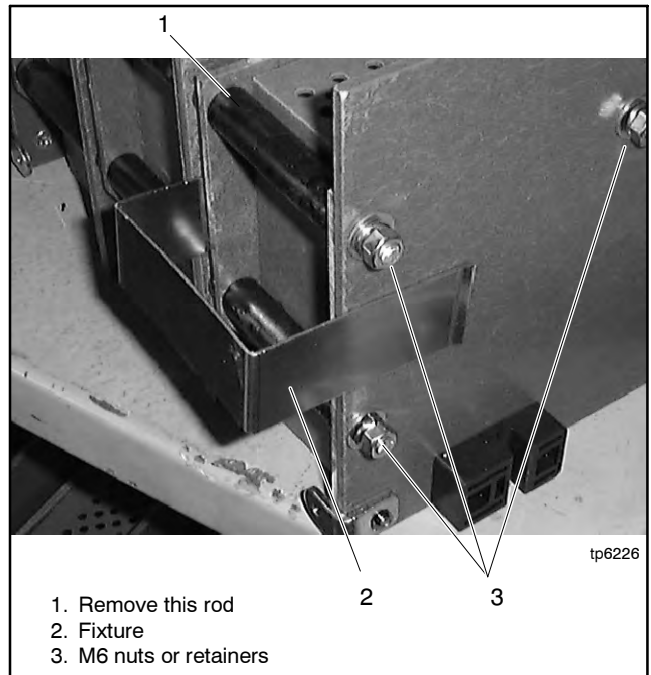

Figure 7-39 Fixture or Clamp, 600 Amp Models
2. Attach a clamp or fixture similar to the one shown in Figure 7-39.
3. Loosen the M6 nuts or remove the retainers. See Figure 7-39.
4. Remove the upper rod shown in Figure 7-39.